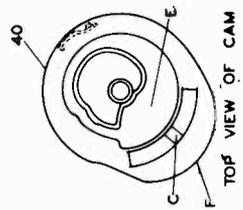

FIG. 3C
This section starts turning the main cam (40 Fig. B). The pickup arm lift (56 Fig. 3B) which normally rests in the depression (point C) in the top of the main cam (40 Fig. 3C) is forced out of the depression and rides around the flat surface of the cam for the duration of the change cycle. At the same time, the pickup arm lift (56) forces the pickup arm (62 Fig. 3B) upward. And the cam follower (14, point D, Fig. 3) in following the inside contour (E Fig. 3C) of the main cam moves the pickup (62 Fig. 3A) away from the turntable (54 Fig. 3A) so that a record will be free to drop. (Assuming start of new cycle.)
As soon as point F of the main cam (40 Fig. 3C) moves against the ejector roller (15 Fig. 3) the roller is forced away from the main cam and the roller shaft (15 see exploded view) in turn forces the ejector plate (16 Fig. 3A and 6 forward and pushes a record off the record shelf (11 Fig. 4A).